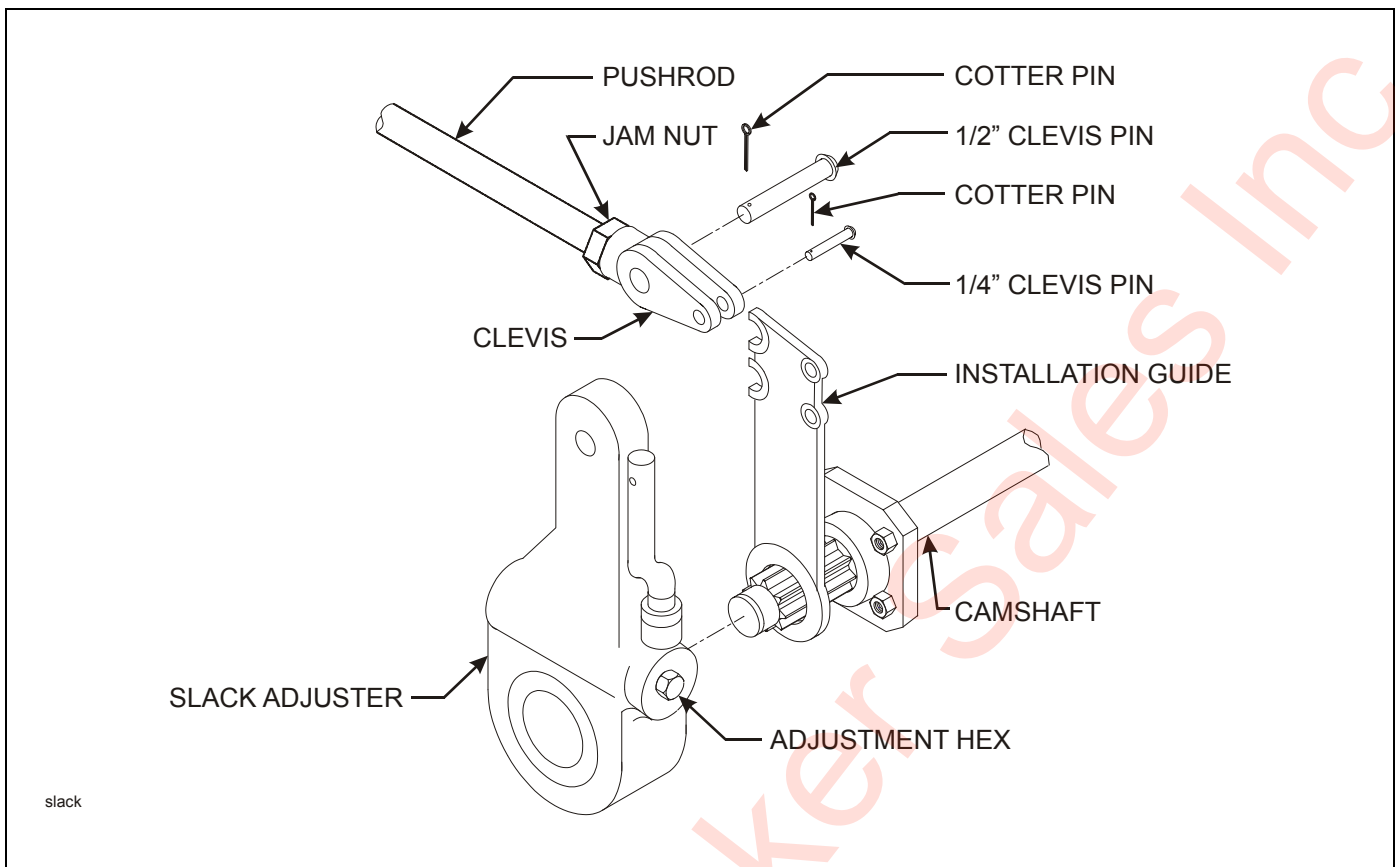

Figure 4-14: Slack Adjuster
4. Disconnect the slack adjuster from the connecting rod by removing the clevis pin (**See Figure 4-14.**)
4. Remount the brake chamber on the axle brackets and reconnect the air service hoses and the slack adjuster connecting rod (**See Figure 4-14.**)
2. Check that the push rod is fully retracted, apply air to release spring brake (**See Figure 4-14.**)
3. Remove the existing slack adjuster and clevis - DO NOT REMOVE EXISTING JAM NUT (**See Figure 4-14.**)